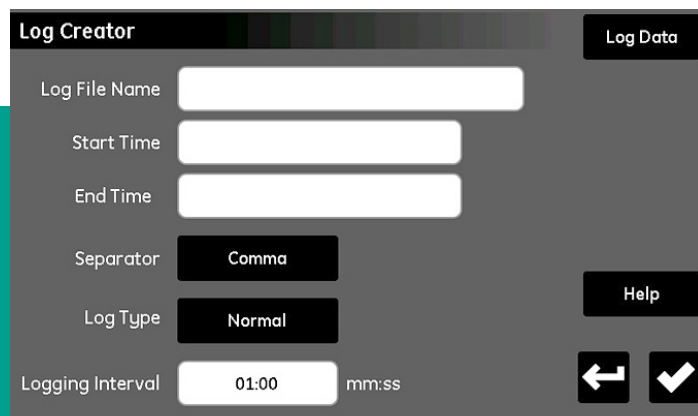

Figure 51: Log creator screen
- a. Tap the **create log** button to open the *log creator* screen, as shown in *figure 51* below.